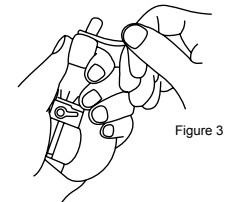

Figure 3
- When the alignment error is around ±0.01 mm or more (Figure 3)